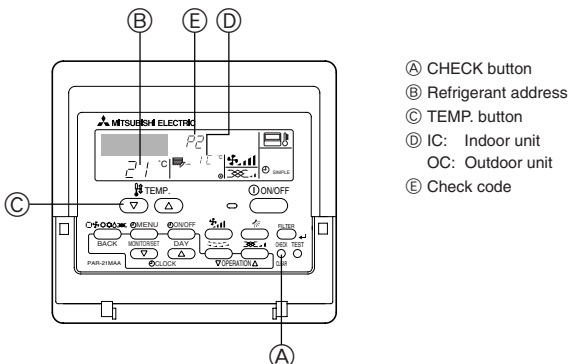

Fig. 10-3
10.4.1. Wired remote controller (Fig. 10-3)